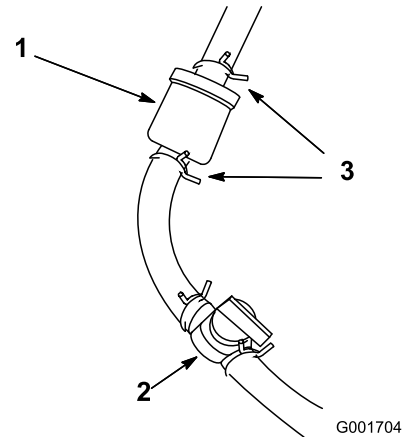

Figure 46
3. Close fuel shut-off valve (Figure 46).
4. Loosen the hose clamp at the fuel filter and slide it away from the fuel filter (Figure 46).
5. Pull the fuel line off fuel filter (Figure 46). Open fuel shut-off valve and allow gasoline to drain into a gas can or drain pan.
6. Install the fuel line onto the fuel filter. Slide the hose clamp close to the fuel filter to secure the fuel line (Figure 46).